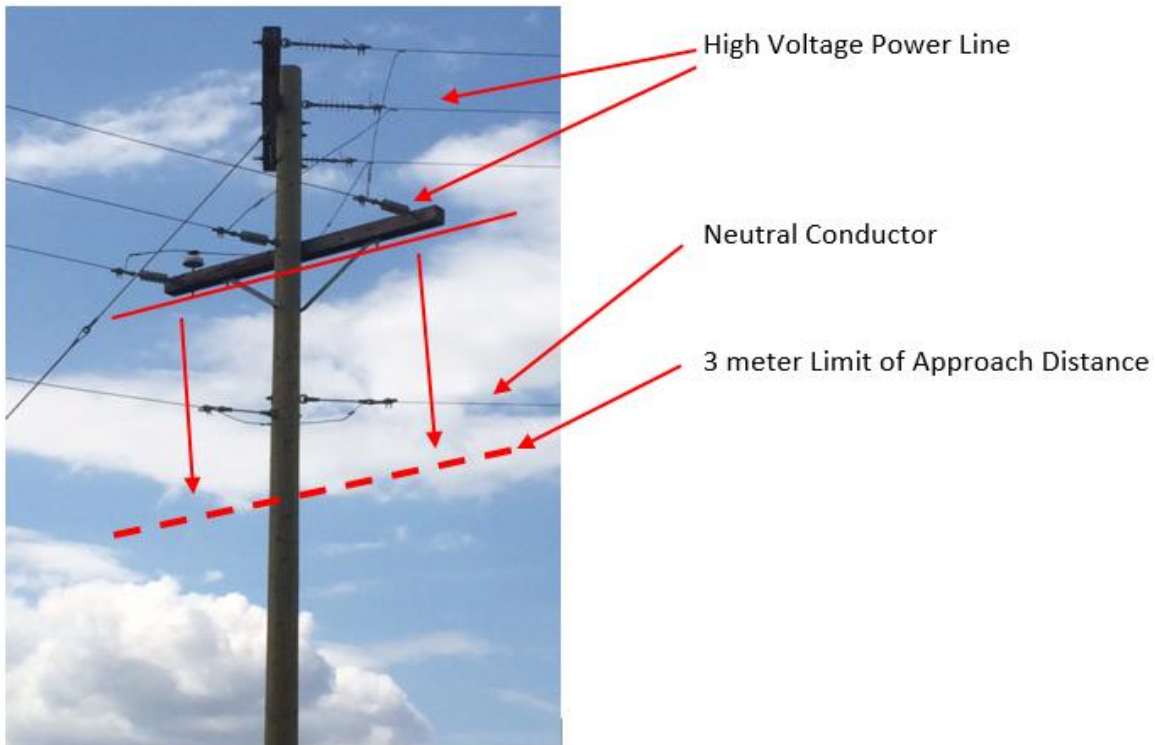

Figure 9 - Three Phase Power Line with a “Three Phase Tap”
- 7.3.3. Figure 9 is another three phase structure with a 3 phase tap located on the bottom crossarm. The conductors on the bottom crossarm are connected to the conductors on the top crossarm and so contain the same high voltage as the top high voltage power line.